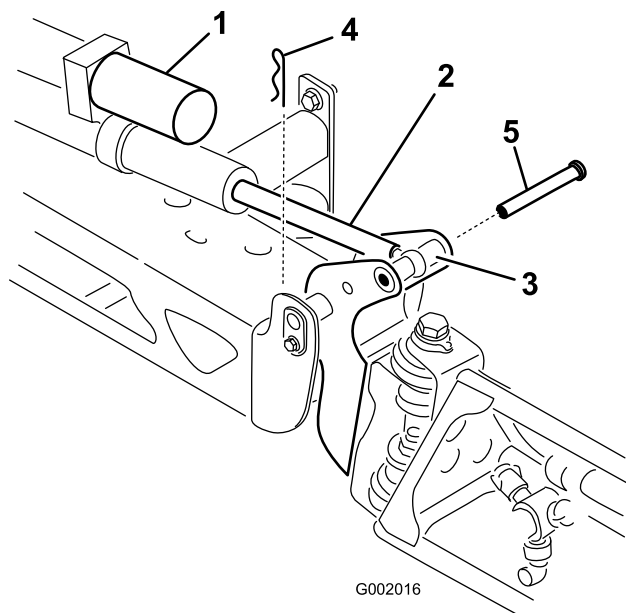

Figure 36
2. Remove the cotter pin from the pivot pin (Figure 36).
3. Lift up on the boom and remove the pin (Figure 36). Slowly lower the boom to the hardstop.
6. Lift up on the boom to align the pivot with the actuator rod. While holding the boom, insert the pin through both boom pivot and actuator rod (Figure 36).